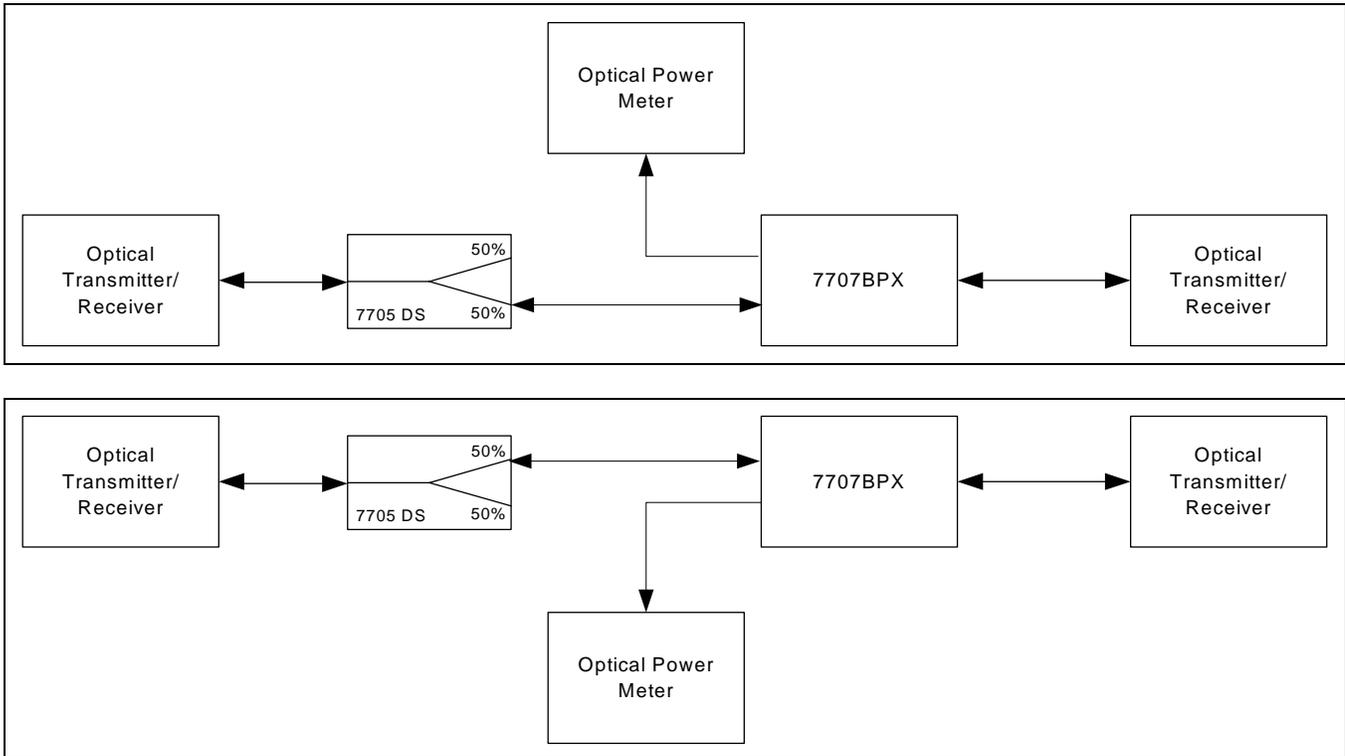

Figure 1-5: Bi-Directional Setup Step 2
- 2) Back reflection is phenomena where by part of the optical power being transmitted is reflected back when the signal encounters an interface of differing refractive indexes. The back reflection between an optical Fiber and air is -15dB . To avoid Back reflection issues, measure the optical power being transmitted from Channel A and Channel B of the 7707BPX as shown in Figure 1-5. Set the 7707BPX's optical threshold to: